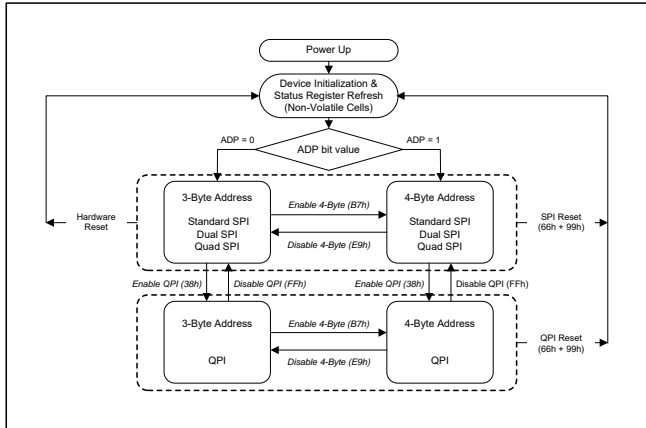

Figure 3. AS25F3512MQ Flash Memory Operation Diagram
The AS25F3512MQ supports Quad Peripheral Interface (QPI) operations only when the device is switched from Standard/Dual/Quad SPI mode to QPI mode using the “Enter QPI (38h)” instruction. The typical SPI protocol requires that the byte-long instruction code being shifted into the device only via DI pin in eight serial clocks. The QPI mode utilizes all four IO pins to input the instruction code, thus only two serial clocks are required. This can significantly reduce the SPI instruction overhead and improve system performance in an XIP environment. Standard/Dual/Quad SPI mode and QPI mode are exclusive. Only one mode can be active at any given time. “Enter QPI (38h)” and “Exit QPI (FFh)” instructions are used to switch between these two modes. Upon power-up or after a software reset using “Reset (99h)” instruction, the default state of the device is Standard/Dual/Quad SPI mode. To enable QPI mode, the non-volatile Quad Enable bit (QE) in Status Register-2 is required to be set. When using QPI instructions, the DI and DO pins become bidirectional IO0 and IO1, and the /WP and /HOLD pins become IO2 and IO3 respectively. See Figure 3 for the device operation modes.